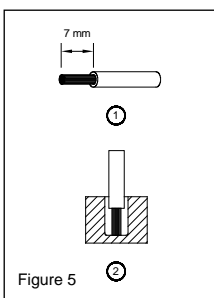

Figure 5
You can use flexible (stranded wire) or solid cables with cross section 0.52-3.3 mm² (AWG 20-12) and torque of 4.67 Kgf-cm (4.05 lb in). To secure reliable and shock proof connections, the stripping length should be 7 mm (see Fig. 5 (1)). Please ensure that wires are fully inserted into the connecting terminals as shown in Fig. 5 (2).